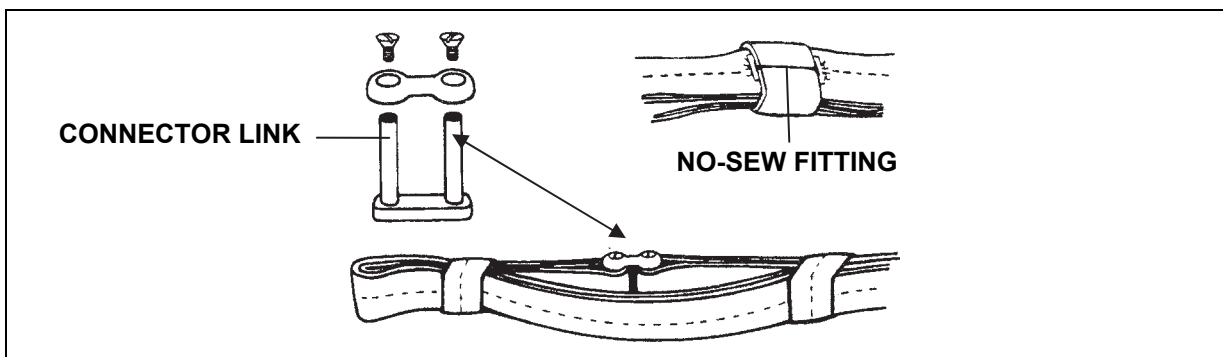

Figure 6-24. Connector Link
- Nylon Sling Leg.** The maximum capacity of each sling leg is 5,560 pounds. Each sling leg is made from a 15 foot long nylon web loop that is connected to itself by a connector link (figure 6-24). The connector link is the same type link that is used on the web ring. The separate nylon plies are held together by five web keepers. Three of the keepers are sewn to the nylon loops and the other two are called floating web keepers. The floating web keepers are located at either
end of the nylon leg where they can slide back and forth to act as a cinch. All web keepers are held together by a no-sew fitting as shown in figure 6-24.